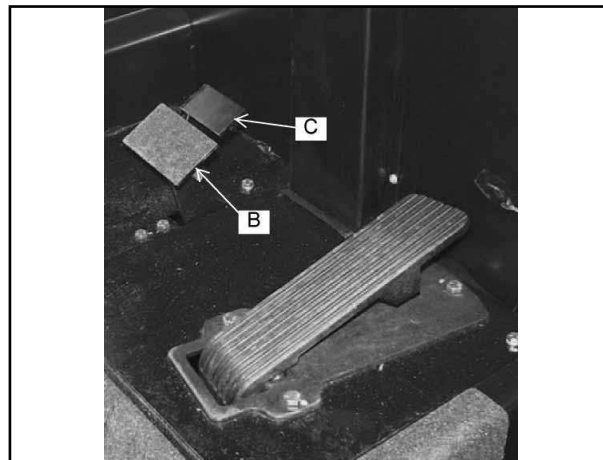

FIGURE 31
The parking brake is located on the floor of the machine left of the foot throttle as shown in figure 31. To set the parking brake, press down on the foot pedal (B) and the press down the lock (C). To unlock the parking brake, push down on the upper portion of the foot pedal and release.